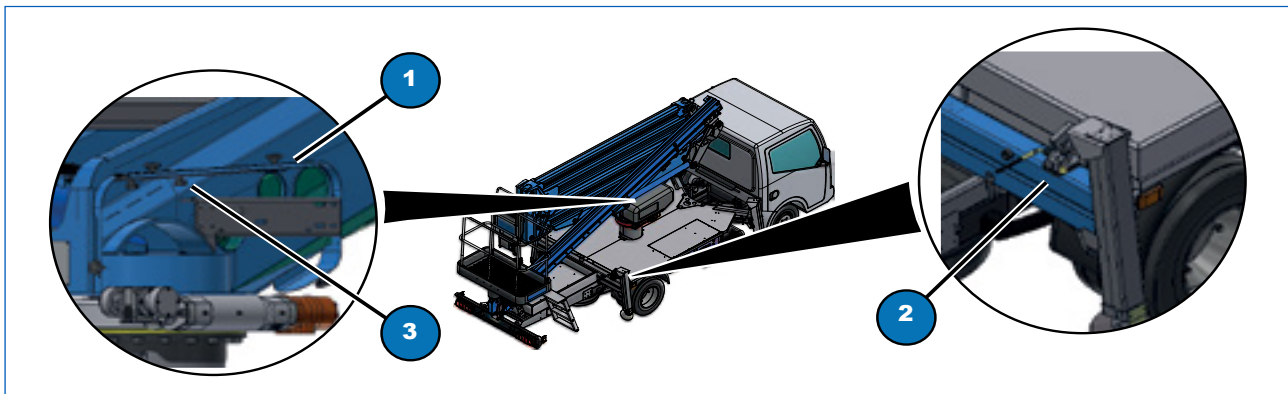

Fig. 7.3
If there is a failure to the vehicle's engine, the gear pump that supplies motor power to all the equipment, the platform can be lowered as follows (Fig. 7.3):
- 1) remove the manual pump control lever (Fig. 7.3, 1) fastened in the ladder by unscrewing the black locking knob (Fig. 7.3, 3);
- 2) insert the handle onto the manual pump (Fig. 7.3, 2);